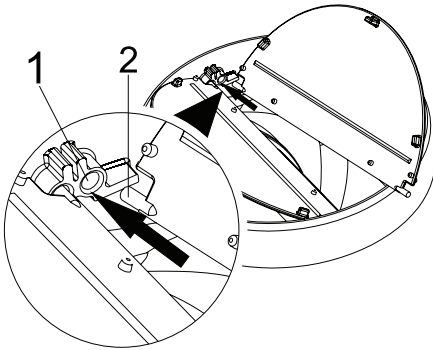

Figure 2
- Insert the plastic pin (Figure 2/area no. 2) on the pin socket on the motor exhaust (Figure 2/ area no.1). Then bend the flap lightly to insert the other pin on the flap and insert the other pin to its socket (Figure 2).